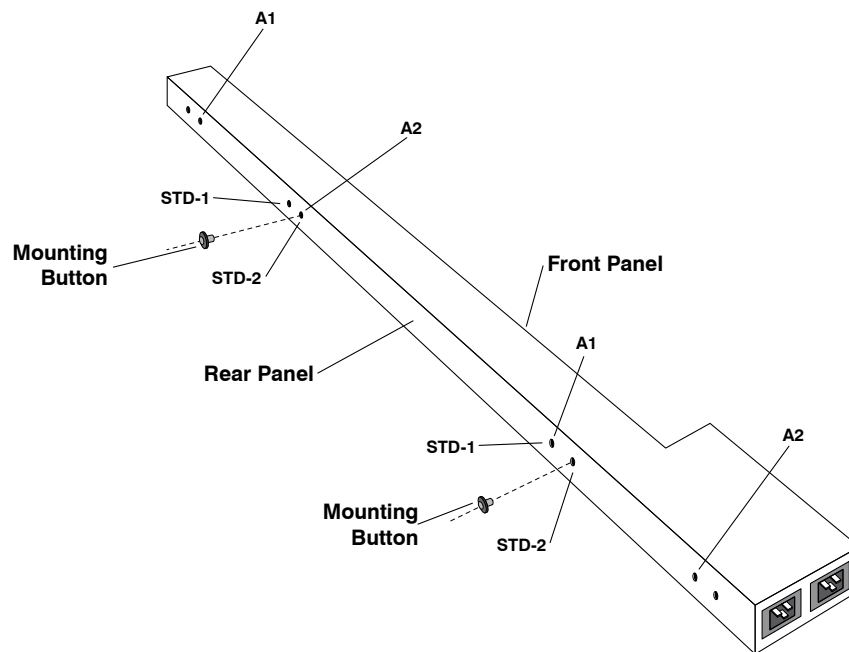

Figure C.1: Installing Mounting Buttons
1. **Determine the Appropriate Mounting Button Locations:** Refer to Figure C.1 and the table below to determine the appropriate button locations for your individual equipment rack: